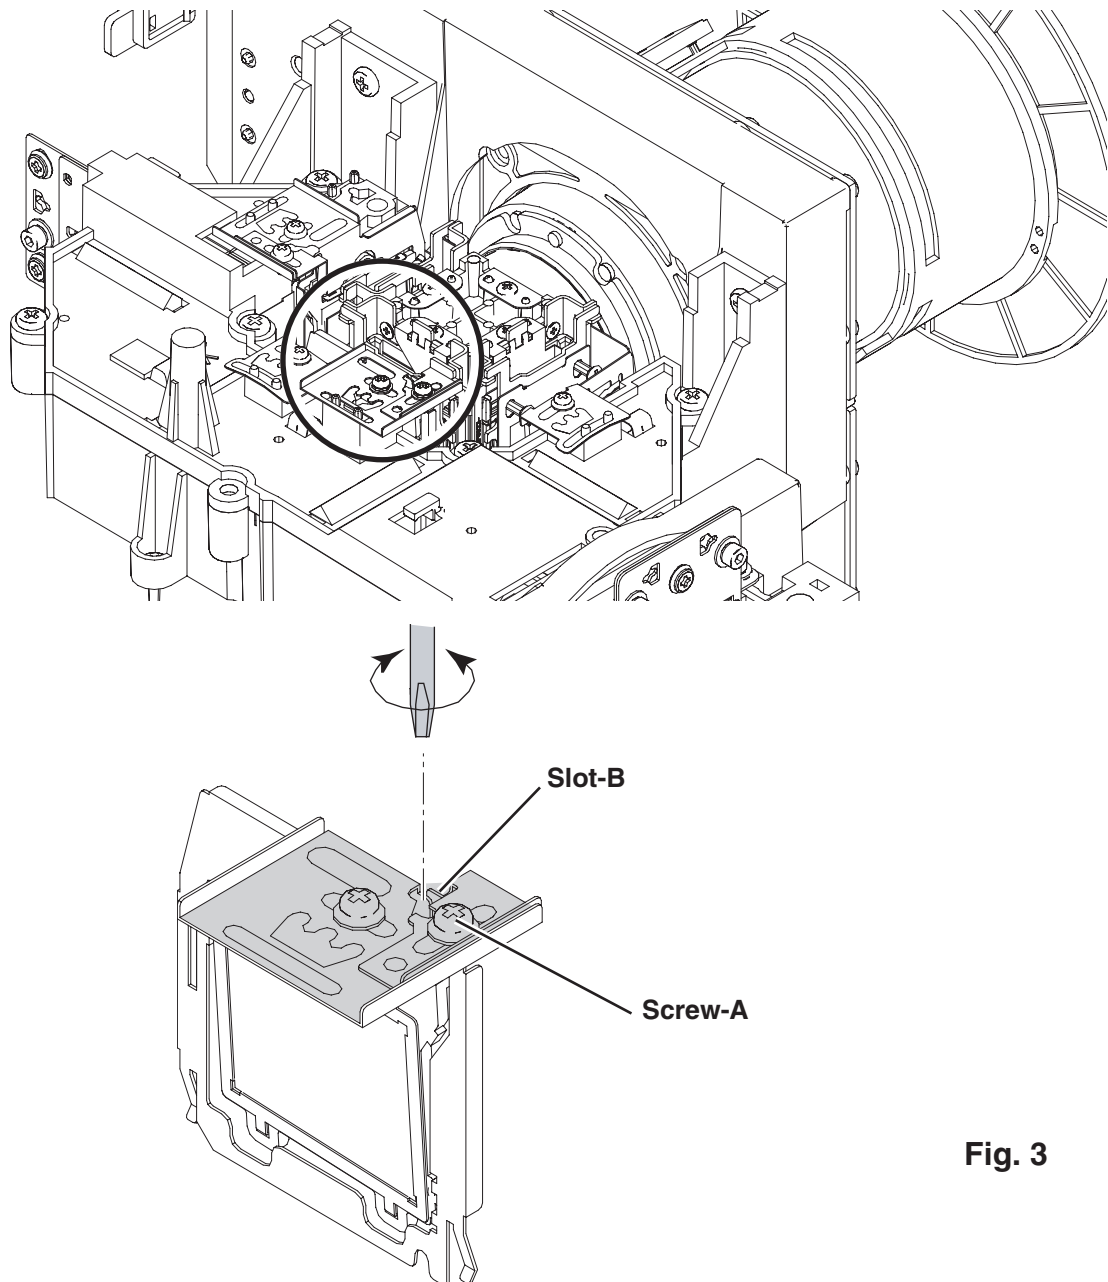

Fig. 3
2. Adjust the slot **B** to obtain the uniform black on the screen as shown in **Fig. 3**.